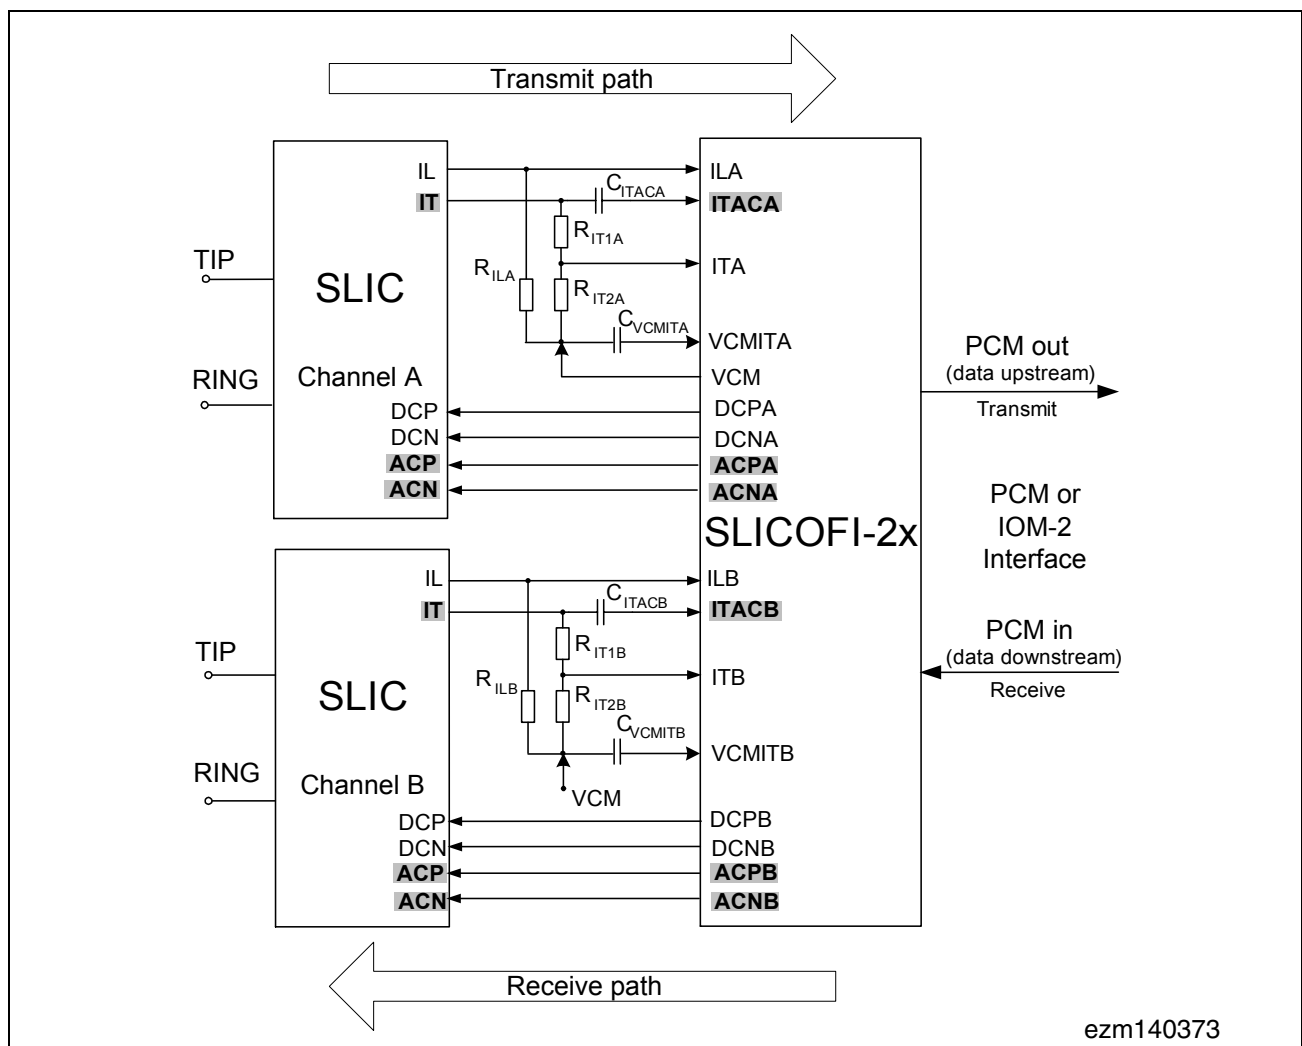

Figure 19 Signal Paths – AC Transmission
SLICOFI-2x uses either an IOM-2 or a PCM digital interface. In receive direction, *SLICOFI-2x* converts PCM data from the network and outputs a differential analog signal (ACP and ACN) to the SLIC that amplifies the signal and applies it to the subscriber line. In transmit direction, the transversal (IT) and longitudinal (IL) currents on the line are sensed by the SLIC and fed to the *SLICOFI-2x*. A capacitor separates the transversal line current into DC (IT) and AC (ITAC) components. Because ITAC is the sensed transversal (also called metallic) current on the line, it includes both the receive and transmit components. *SLICOFI-2x* separates the receive and transmit components digitally, via a transhybrid circuit. **Figure 19** shows the signal paths for AC transmission between the SLICs and *SLICOFI-2x*: